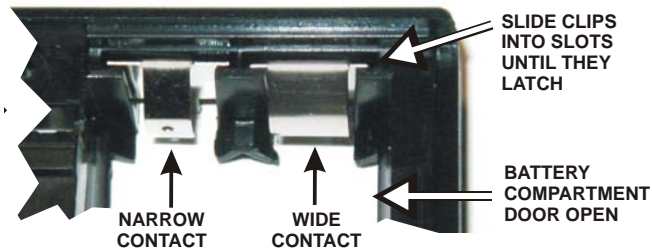

Figure 14. Installing Battery Clips.
- On the enclosure bottom cover, remove the battery compartment cover. It is indicated by an arrow molded into the case. With the case face down and the battery compartment open, insert the metal battery clips as shown in Figure 14. Be sure the wider contact is closest to the bottom of the enclosure. Once fully inserted, the clips will lock in place.